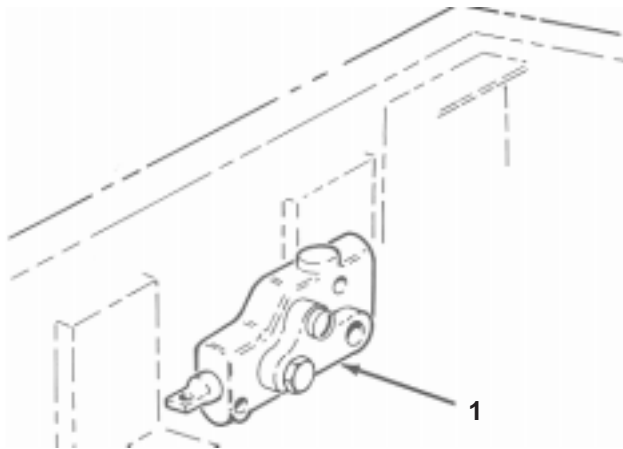

Figure 1
1. Place a drain pan under lift valve (Fig. 1) on right side of machine.
2. Disconnect return line (Fig. 1), from bottom of lift valve (line goes to radiator or oil cooler).
8. Loosely mount appropriate tube assemblies to fittings on right and left sides of valve, positioning them as shown in figure 1.